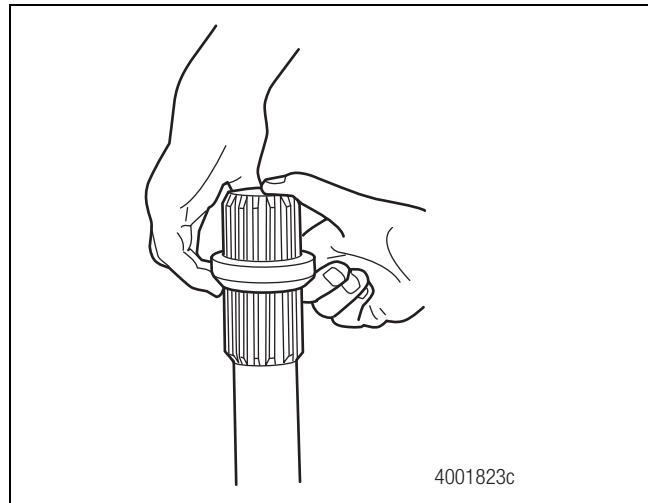

Figure 8.17
3. Remove the seal from the slip shaft. Figure 8.17.